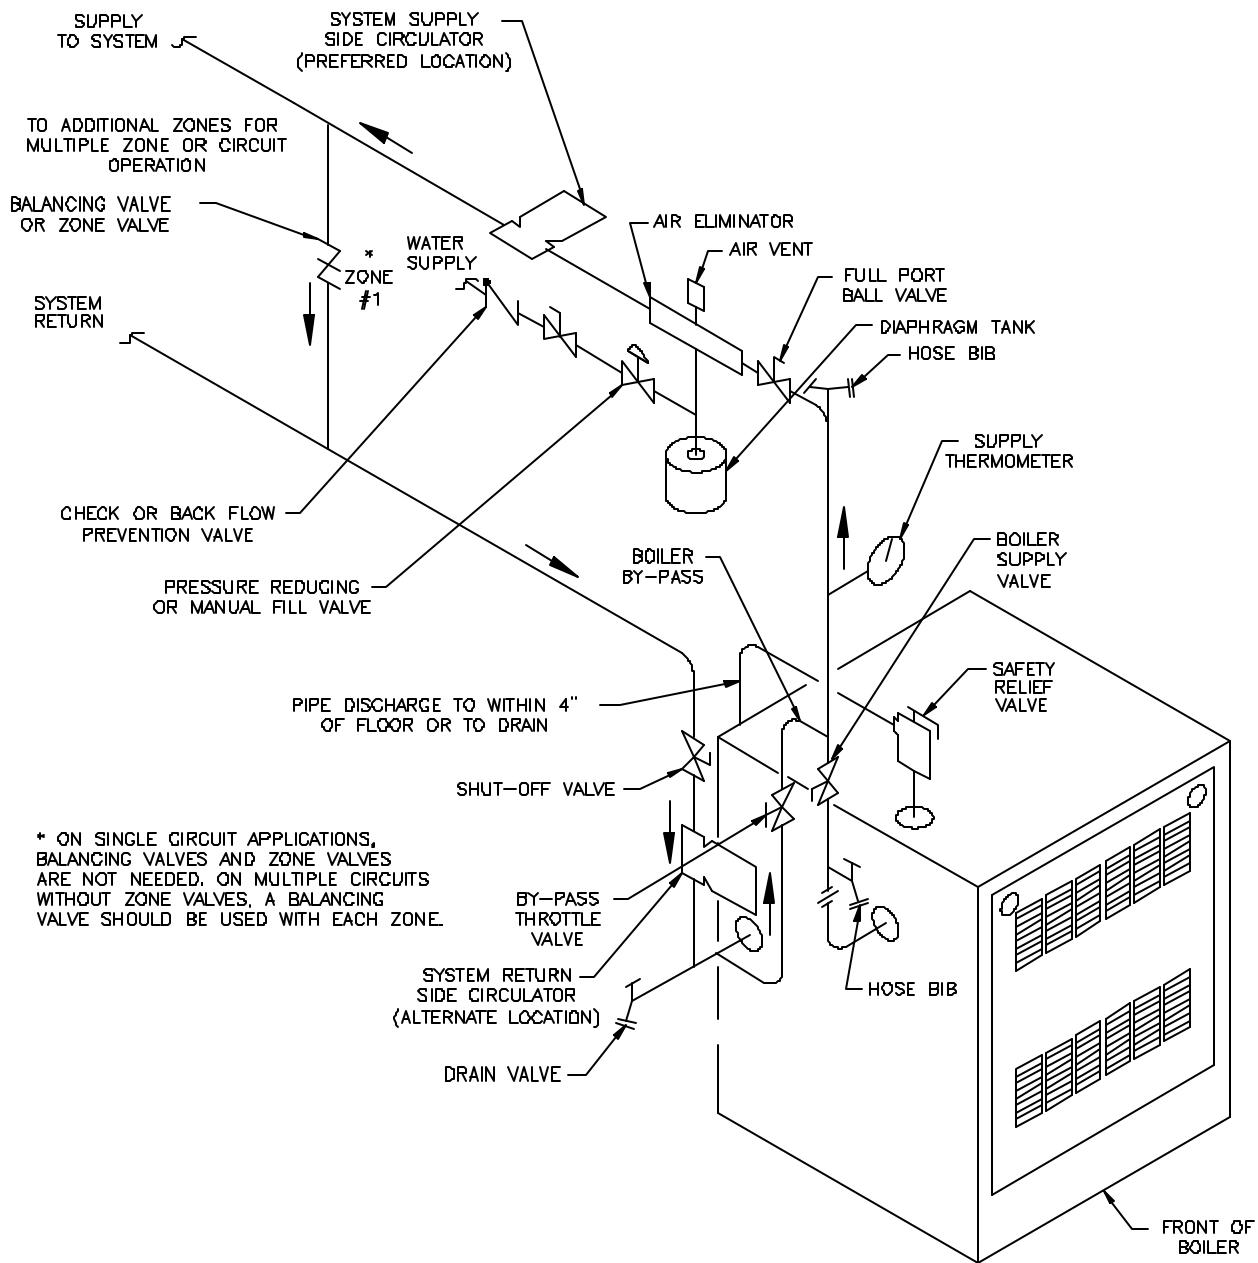

Figure 3: Recommended Boiler Piping For Series - Loop Hot Water Heating Systems
B. Connect system supply and return piping to boiler. See Figure 3. Also consult I=B=R Installation and Piping Guides. Maintain minimum $\frac{1}{2}$ inch clearance from hot water piping to combustible materials.
D. Install Safety Relief Valve. See Figure 3. Safety Relief Valve must be installed with spindle in vertical position. Installation of the relief valve must be consistent with the ANSI/ASME Boiler and Pressure Vessel Code, Section IV.
Install pipe tee between circulator and boiler return along with second tee in supply piping as shown in Figure 3. Bypass should be same size as the supply and return lines with valves located in bypass and supply outlet as illustrated in Figure 3 in order to regulate water flow to maintain higher boiler water temperatures.